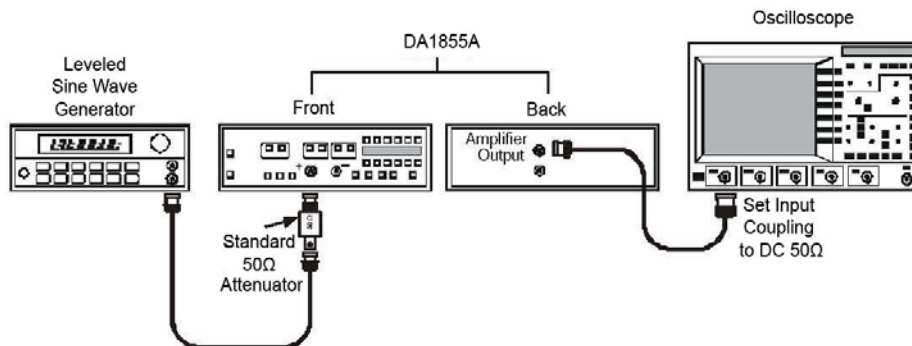

Figure 17, HF CMRR Test Setup 1.
1. Make the set-up the same as used for the X1 Bandwidth test. See Figure 17.